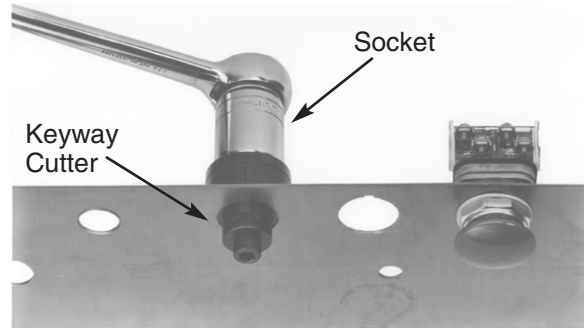

Figure 3
3. Install a 1" socket and handle over the jam nut. Turn the handle until the cutter blade makes a clean cut through the panel. (Figure 3)